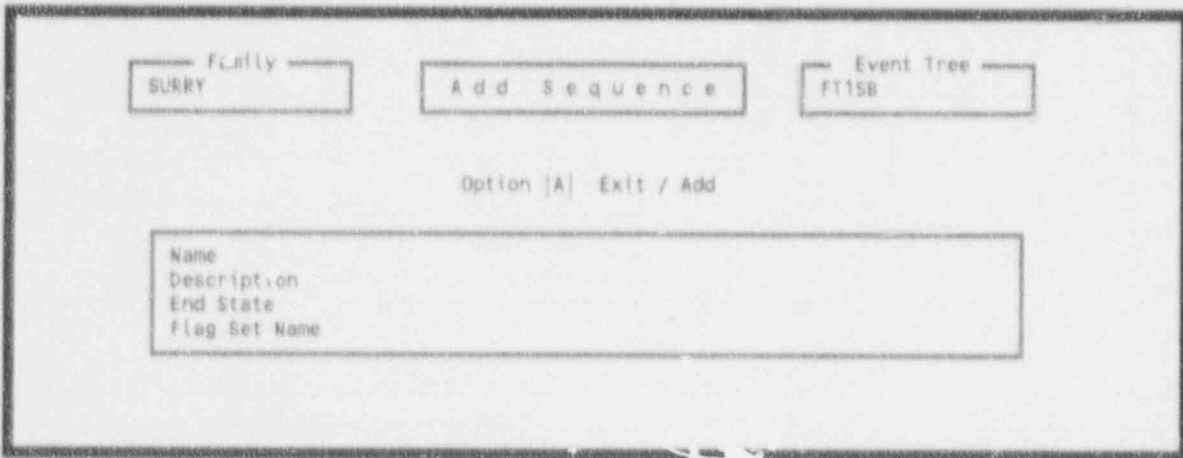

Figure 179. Editing screen for adding a sequence.
9.3.6.2 Add. This option allows you to add a sequence record to the data base. To invoke this option, type <A> in the option field and press <Enter>. The Add Sequence screen is shown in Figure 179. The options at this point are Exit and Add.